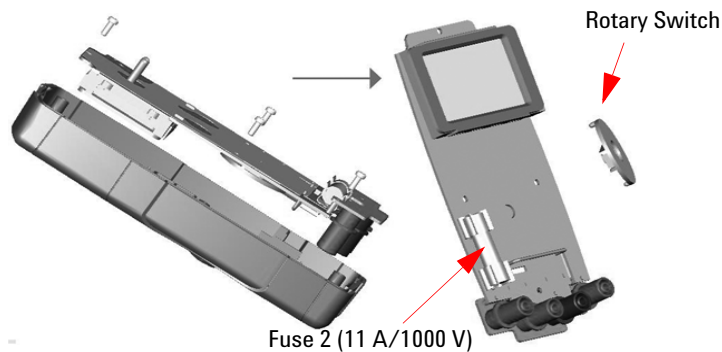

Figure 4-11 Fuse 2 replacement
- 5 If you want to replace a defective Fuse 2, remove Fuse 1 prior to removing the Fuse 2. Loosen the four screws (shown in Figure 4-11) to lift and remove the circuit board from top case.
- 6 Gently remove the defective Fuse 2 by prying one end of the fuse loose and removing it out of the fuse bracket, see Figure 4-11.